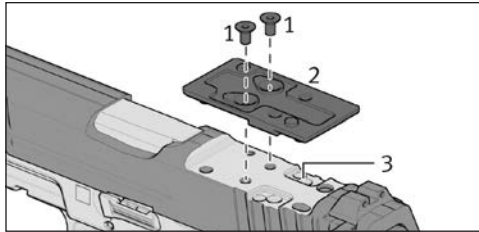

Figure 12 – Loosen screws
5. Tighten screws to 2Nm torque (Figure 12).